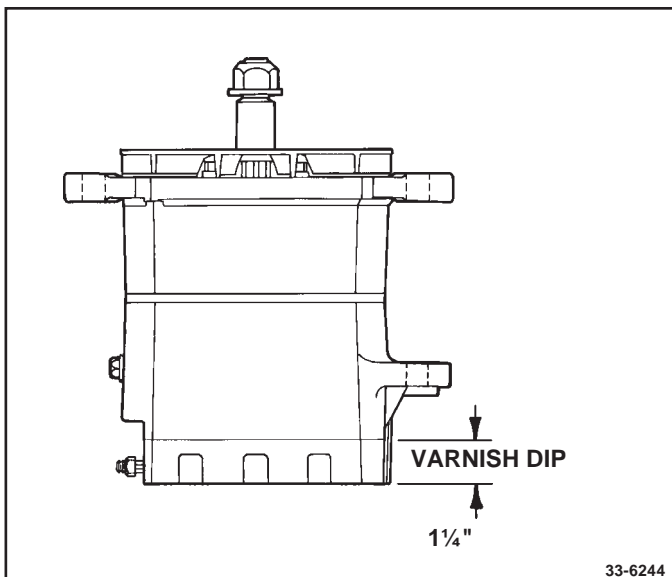

Figure 38. Protective Varnish Dip
29. After assembly, dip rectifier end frame of alternator about one and one quarter inch (1¼") deep into clear electric grade varnish or otherwise coat area of electronics to protect from corrosion. (See Fig. 38)